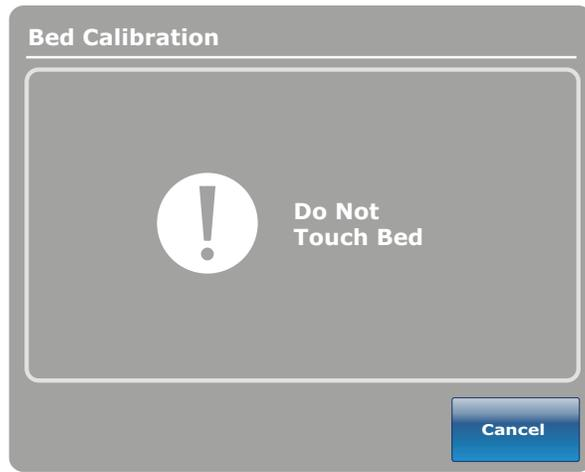

Figure 8 – Bed calibration - do not touch bed
- Press the **Next** button when done. The Do Not Touch Bed screen appears (Figure 8).
16. The Do Not Touch Bed screen appears (Figure 8).
21. The Do Not Touch Bed screen appears (Figure 8).
26. The Do Not Touch Bed screen appears (Figure 8).